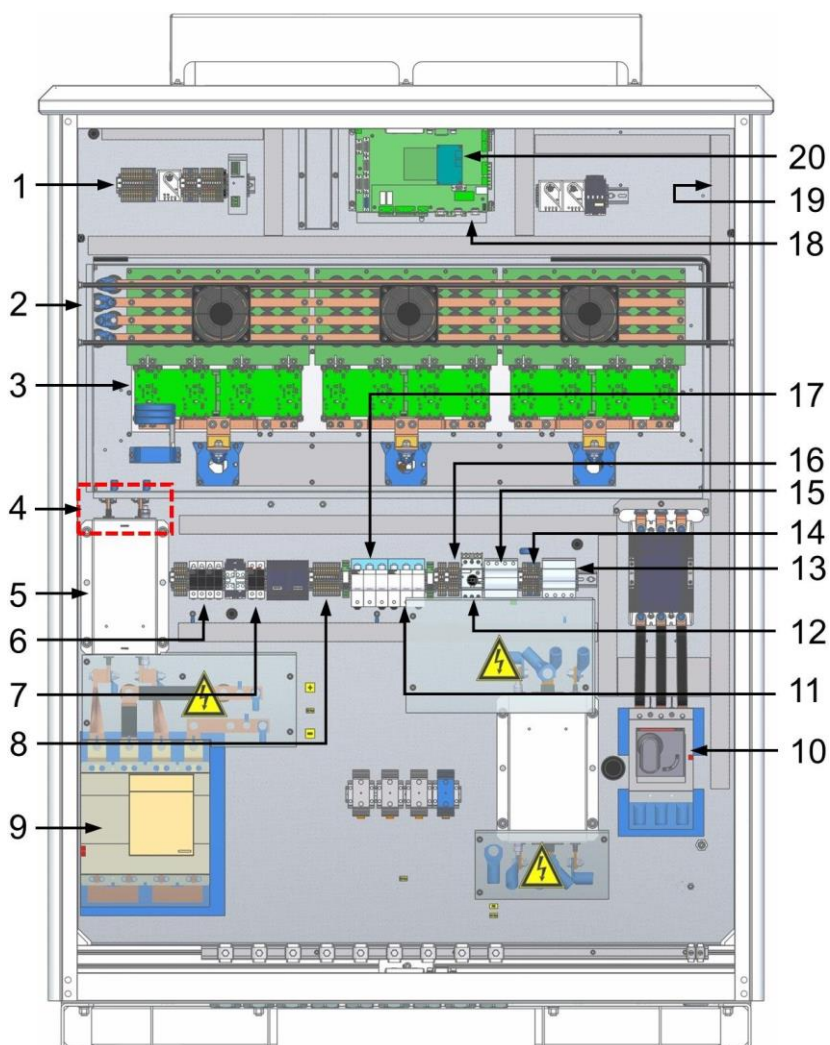

Figure 6: Interior view front (+C1)
1. **Check** the shock indicators for transport damage. The shock indicators are inside of the product (Figure 6) and on the packaging. They indicate an improper transport.